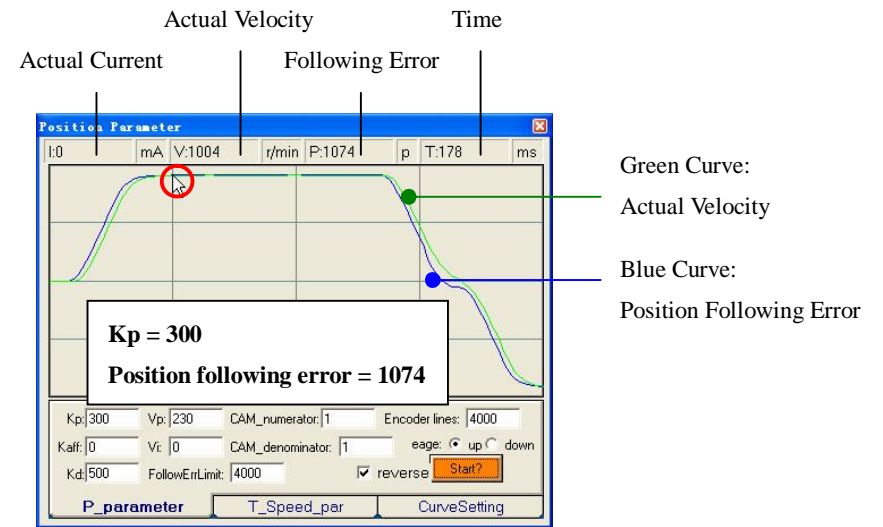

Figure 6-28: Digital scope for position/velocity loop tuning
Step 2: Increase **Vp** until motor noise/vibration begins. Then back off. To activate the noise/vibration, sometimes you need to give a disturbance to the load by either clicking the **Start** button or trying to push/pull the load. In this example, we give **Vp** 120, 150, 200, 250 and find that the noise/vibration at **Vp**=250 can be accepted. So we stop increasing **Vp**. Figure 6-28 shows the velocity (The green curve) and position following error (The blue curve). And we can see the current position following error is 1074 at the top of the digital scope.
Tip: The digital scope displays actual velocity (the green curve) and position following error (The blue curve) as shown in figure 6-28. It is the result of the trapezoidal velocity test by clicking **Start** button. Click the button once again to hold on the curves (The button caption is “**Start**”). Otherwise the scope will be always updated (The button is “**Stop**”). The user can put the mouse (cursor) on the curve to check the curve point value at the top status bar.